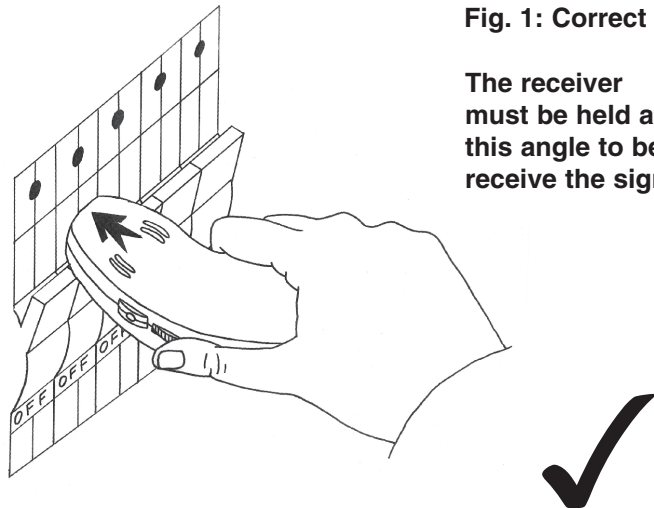

Fig. 1: Correct
3. Go to fuse box (consumer unit) and place flat surface of receiver at a right angle to and directly on the fuse or circuit breaker (**Fig. 1**).